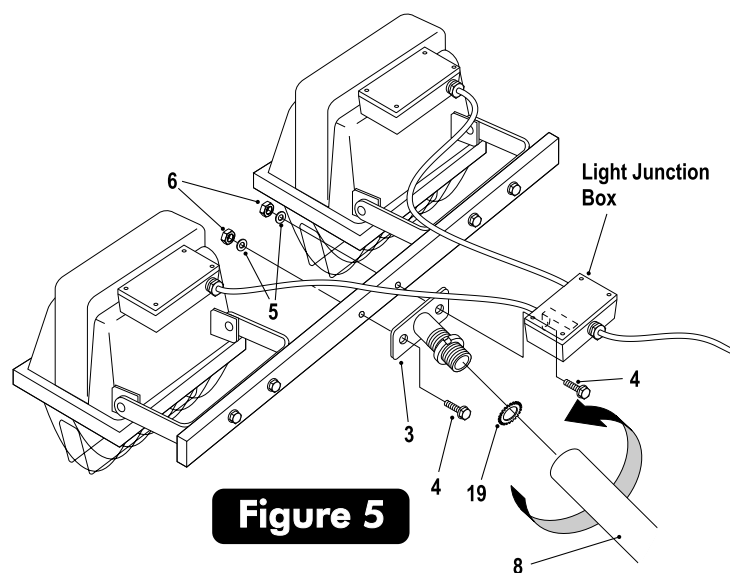

Figure 5
9. Install a Serreanted Washer (#19) onto Lamp Base (#3) and screw the threaded portion of the Lamp Base (#3) into the threaded end of Pole Section "A" (#8). Secure Lamp Base by tightening jam nut on Lamp Base (#3) against end of Pole Section "A" (#8). See Figure 5.
10. Attach Lamp Base (#3) and Light Junction Box to Lamp Mount Bar (#2) using two Washer Head Bolts (#4), two washers (#5) and two locknuts (#6). See Figure 5.